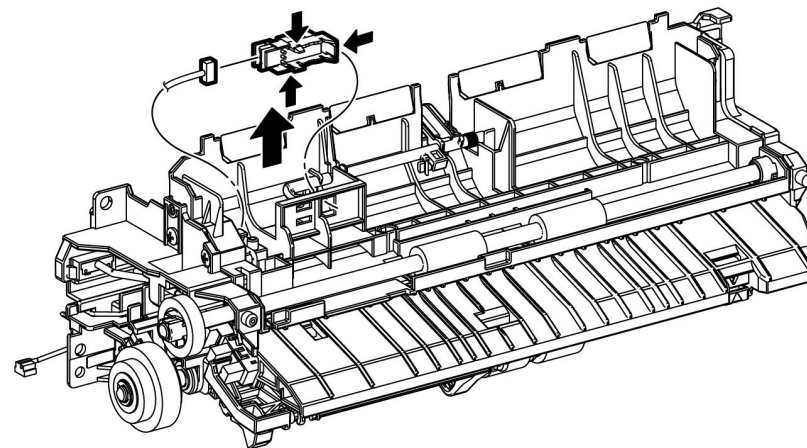

Figure 1 Remove the Registration Photo Sensor
2. Refer to Figure 1 to release the double hooks, then remove the Registration Photo Sensor from the Registration Chute Feeder Assembly.
3. Refer to Figure 1 to unplug the Photo Sensor Harness connector (P/J272) from the Registration Photo Sensor.